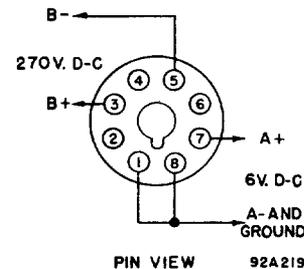

Fig. 2-1. Radio Receiver Model S-37, wiring diagram for d-c power plug.
(1) Remove the octal "jumper plug" for a-c operation from socket S0-1 located on the rear apron of the receiver chassis.
(2) Wire up an octal plug as shown in Fig. 2-1. and plug it into socket S0-1. Use No. 18 (AWG) wire leads for the 270-volt "B" supply connections to pins #3 and #5 and No 12 (AWG) wire leads for the 6-volt "A" battery connections to pins #1, #8 and #7.